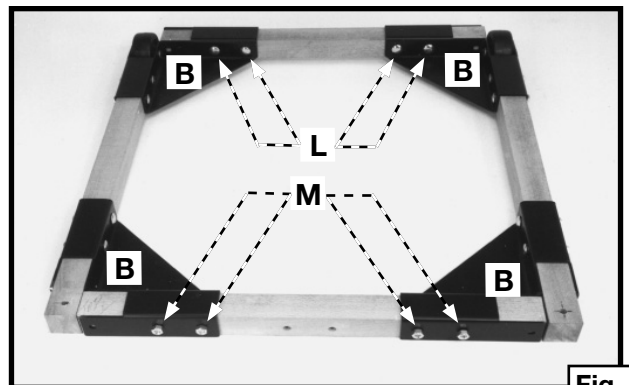

Fig. 10
- Position the boards inside the corner brackets (B) Fig. 10. Align the holes in the boards with the four inside holes in each corner bracket (B) Fig. 10. Fasten the boards to the brackets with sixteen 2" carriage bolts (L) and hex nuts (M).
NOTE: Insert the carriage bolts (L) Fig. 10 from the inside of the brackets (B) so that the squares of the carriage bolts fit into the square holes in the bracket (B).